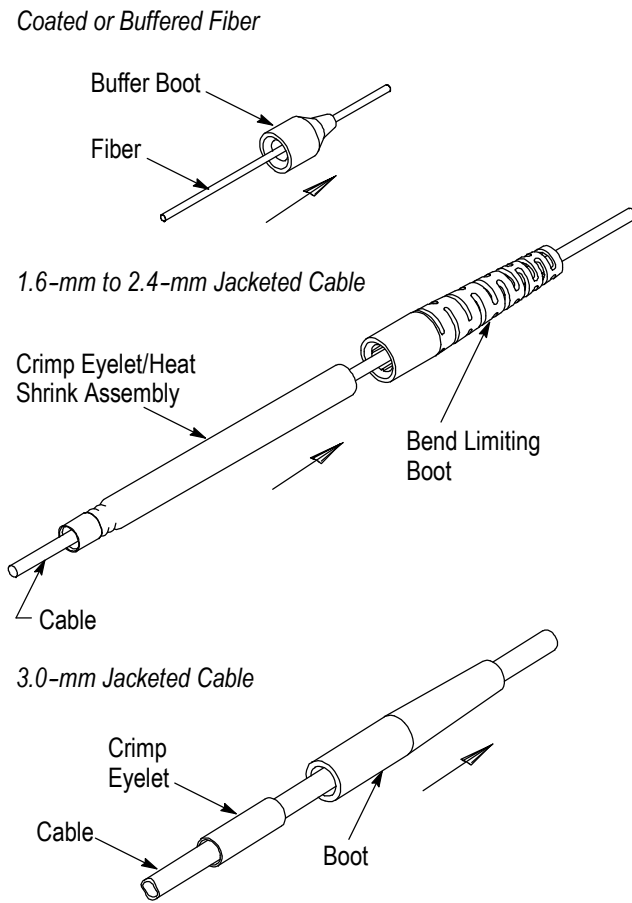

Figure 2
1. Slide the buffer boot (small diameter end first) onto the fiber or buffer. See Figure 2.
1. Slide the boot (small diameter end first) onto the cable. Then slide the crimp eyelet/heat shrink assembly (heat shrink end first) or crimp eyelet onto the cable. Refer to Figure 2.